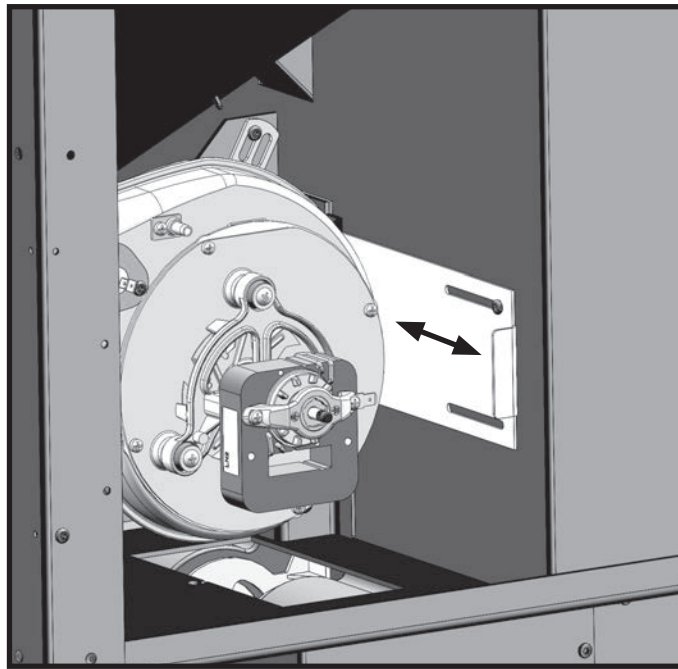

Figure 18: TN40 Damper.
- To increase the vacuum in the firebox, pull the damper out towards the outside of the stove See "Figure 18: TN40 Damper." and push it in to reduce the vacuum.